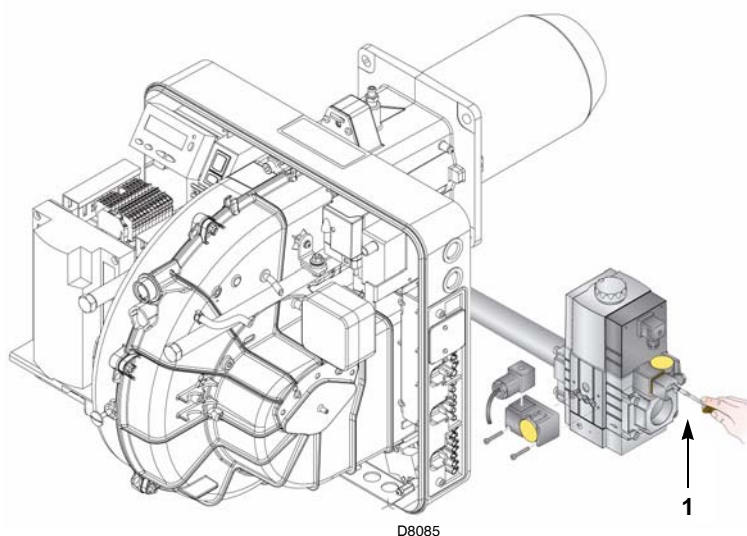

Fig. 26
- Check the gas supply pressure by connecting a pressure gauge to the pressure test point 1) (Fig. 26) of the minimum gas pressure switch: it must be lower than the maximum allowed pressure of the gas train, as shown on the characteristics label.
- Bleed the air from the piping of the gas train, connecting a plastic tube to the pressure test point 1) (Fig. 26) of the minimum gas pressure switch. Take the vent tube outside the building so you can notice the smell of gas.